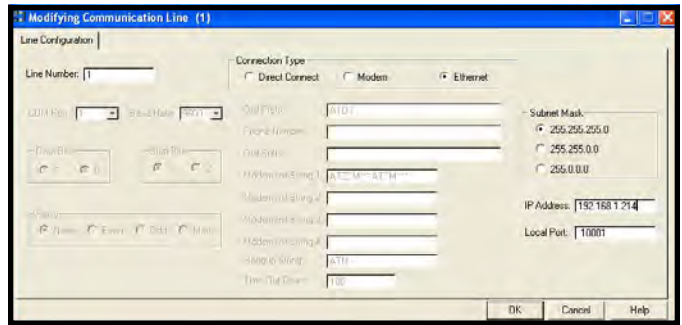

Figure 77. Out-of-the-Box™, Adding New Communication Line window
- III. The “Adding New Communication Line” window will open. The following fields will have to be configured for Ethernet use (see Figure 77):